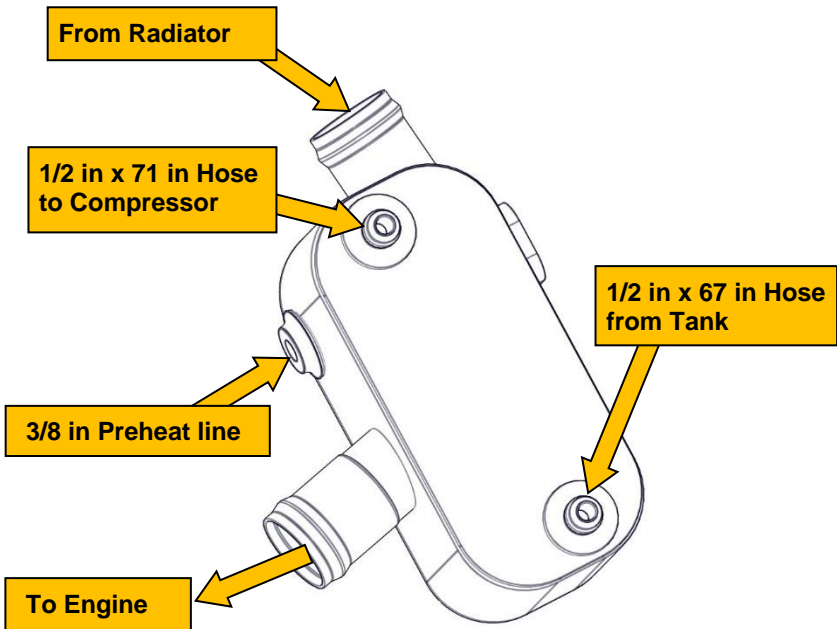

Figure 33 – Cooler connections
- Connect the 90° fitting on the driver side port on the cooler (Figure 33).
- Install the 90° fitting on the passenger side port on the cooler (Figure 33).